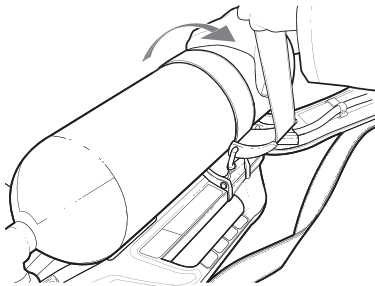

Fig. 37 Loosening the cylinder strap
4. Lift the cylinder strap against the cam lock buckle to release the buckle tension and loosen the strap (Fig. 37).